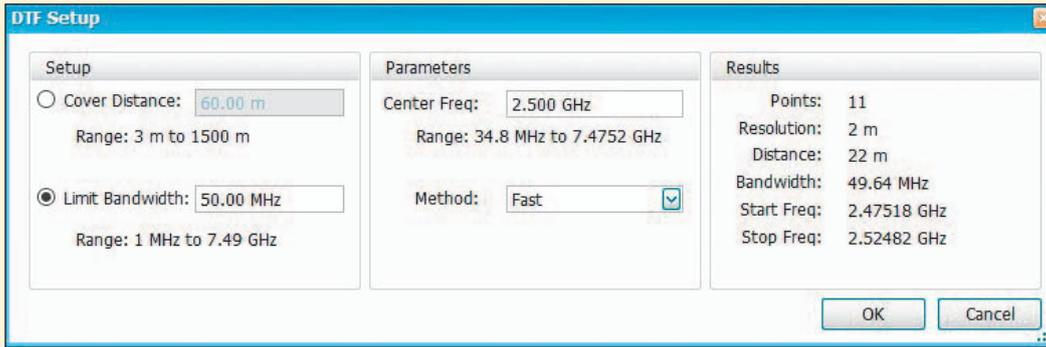

Figure 8: Setting bandwidth limit
10. If you want to set a bandwidth limit for the system instead of using distance, select Limit Bandwidth as shown in Figure 8. Otherwise go to step 11.